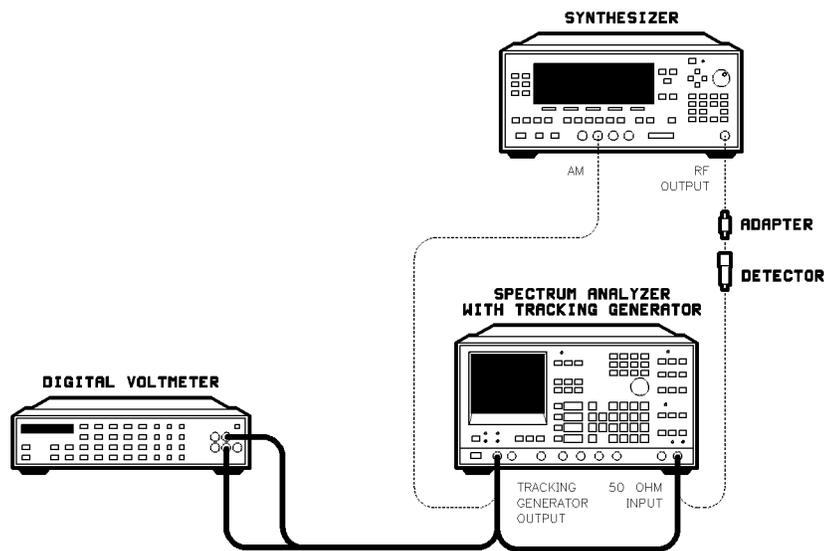

Figure 2-26. AM Bandwidth Test Setup
1. Connect the equipment as shown in Figure 2-26 with the tracking generator output connected to the 50 ohm input of the spectrum analyzer and to the DVM. Press **PRESET** and let the equipment warm up for at least one hour.